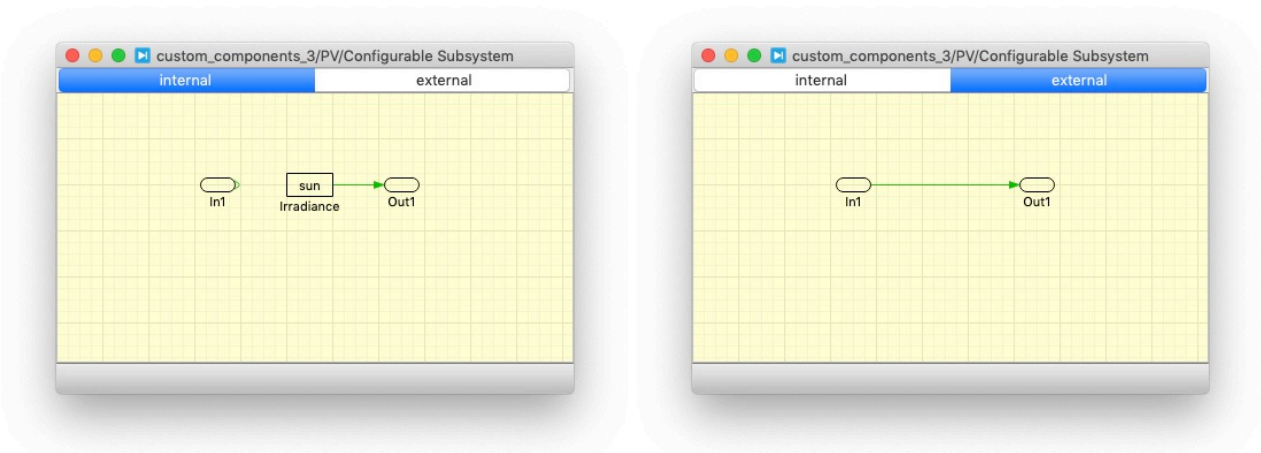

Figure 8: Schematic view of each subsystem configuration
- 5 You can open the schematic view of the Configurable Subsystem block by right-clicking on the subsystem and choosing **Subsystem + Open subsystem** or pressing **Ctrl+U**. The schematic of each configuration can be accessed by the tabs on top of the schematic view. A double-click on the configuration tab allows for the corresponding configuration to be renamed, i.e. to internal. Add a second configuration via the context menu of the tab bar, accessible by a right-click. Name the second configuration external. The schematic diagram of each subsystem configuration is shown in Fig. 8.